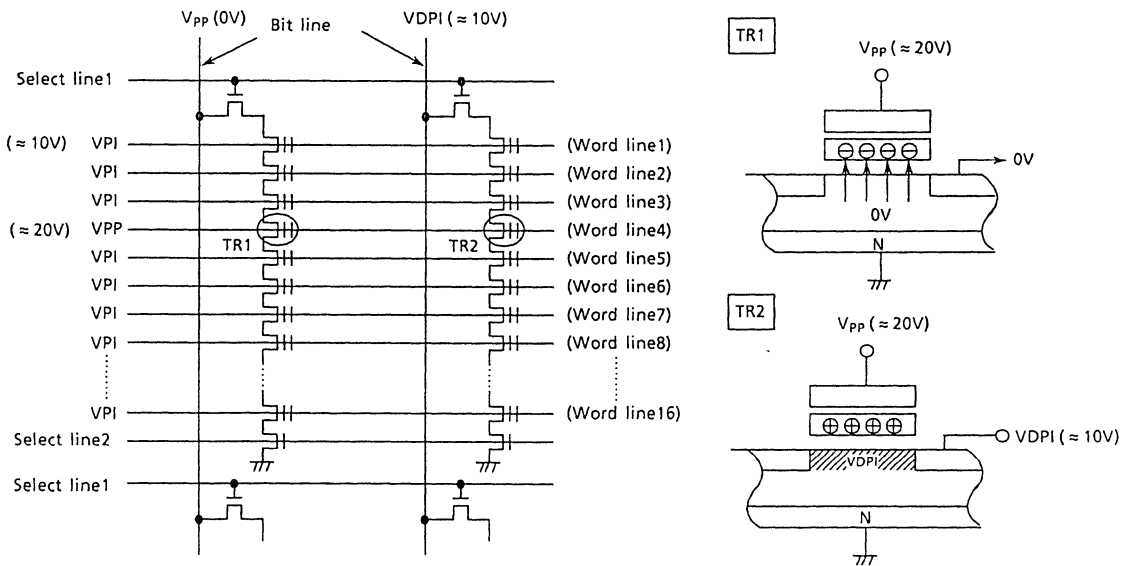

Figure 4. TC58A040 Program Device Physics
Figure 4 shows the NAND memory cell level details of the programming mechanism. The program operation is used to write "0" data into an erased memory cell ("1" data cell) using a tunneling mechanism. An example program operation to program "0" data in TR1 and "1" data in TR2 is as follows:
- (1) A high level is applied to select line 1 and a low level is applied to select line 2 so that the device is connected to the bit line and disconnected from the ground line.
- (2) V_{PP} ($\approx 20V$) is applied to the selected word line and an inhibit voltage of V_{PI} ($\approx 10V$) is applied to the unselected word lines.
- (3) The bit line tied to cell transistor TR1 is biased to $0V$ and the bit line tied to TR2 is biased to the inhibit voltage of V_{DPI1} ($\approx 10V$).
- (4) V_{PP} is applied between the control gate and the channel in TR1, as shown in Figure 4, which causes electrons to be injected from the channel to the floating gate by tunneling.
- (5) The injected electrons are captured in the floating gate (surrounded by an oxide layer) and will remain, even after power is cut off, until they are removed by an erase operation.
- (6) Although 20 volts is applied to the control gate of TR2, the voltage difference between the control gate and the channel is only $10V$ because the voltage of the channel is $10V$. Therefore, tunneling does not take place. (i.e. electrons are not injected into the floating gate.)
- (7) Tunneling does not take place in the unselected pages because of the $10V$ (V_{PI}) being applied to the unselected word lines which again makes the voltage difference between control gate and channel only 10 volts. Thus, the floating gate of the "0" cell is charged to "Minus" and that of the "1" cell is charged to "Plus".